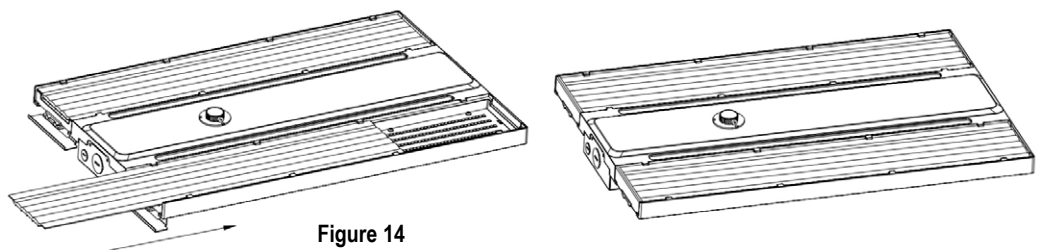

Figure 14
2. Remove the lens from the fixture, replace them with new lens, and close the lens retaining plate, then it's finished. (See Fig. 14)